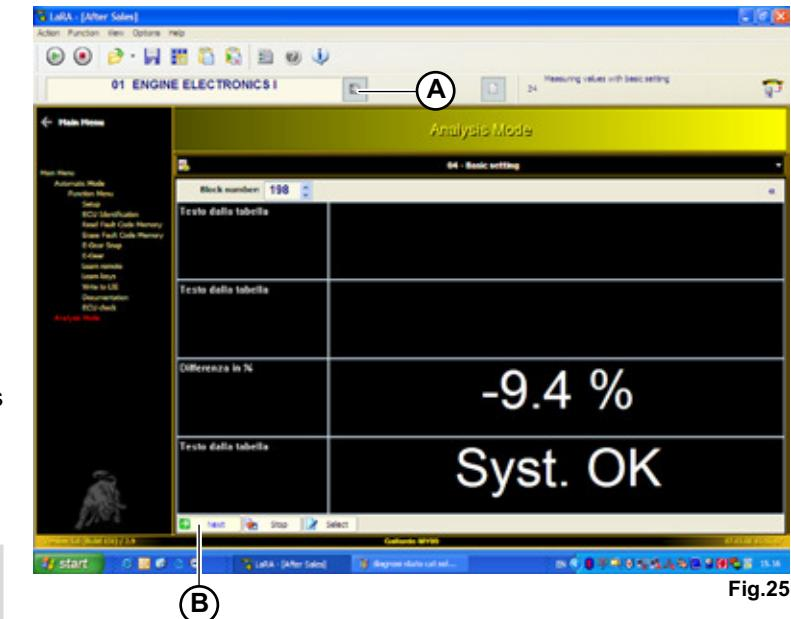

Fig.25
- diagnosis of the tank seal (LDP) (only for USA) / Secondary air system (SL) is performed.
- Select routine 198 inside the block number (**A-Fig.25**).
- Start the connection () and press the start push-button (**B-Fig.25**).